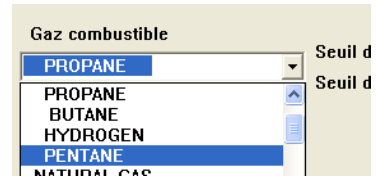

Figure 40: programming combustible gas
- Choose another gas from the list and click on *Programming combustible gas* (Figure 40: programming combustible gas).